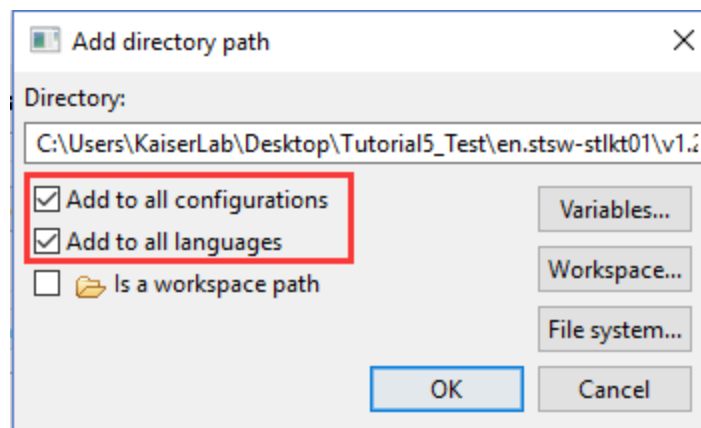

Figure 10: Adding directory path to all configurations and all languages.
12. Check **Add to all configuration** and **Add to all languages**. Press OK. See Figure 10.